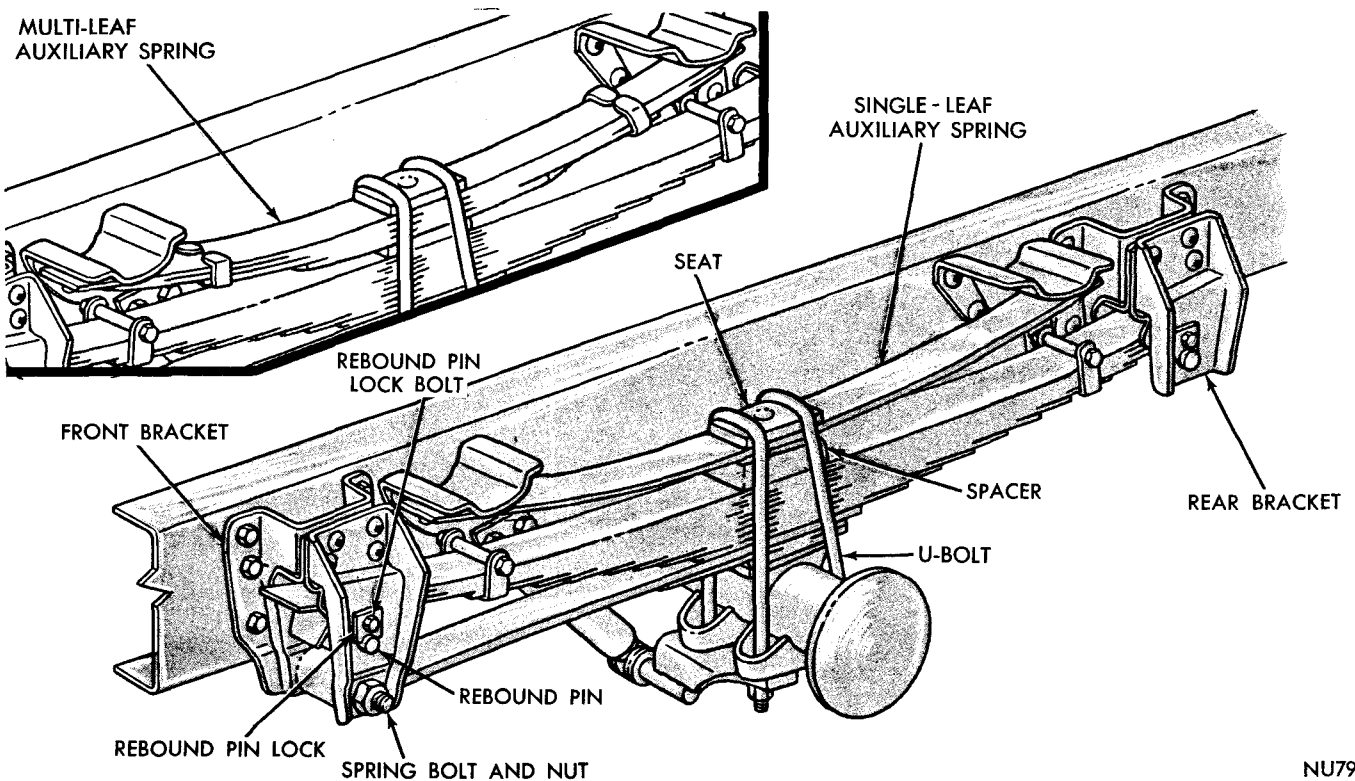

Fig. 14—Variable Rate Spring
REAR SPRINGS (D500, D600, D700, D800, W600, S600 and S700) (Fig. 14)
(3) If truck is so equipped, remove the auxiliary spring and spacer (Fig. 14).
(4) Install a "C" clamp on radius leaf to relieve load on spring eye bolt. Remove front eye bolt retaining nut.
(5) Remove spring eye bolt, and slowly release tension on radius leaf.
(6) Remove rebound pin retaining lock from bracket. Remove spring rebound pin.
(7) Remove rebound pin retaining lock from rear bracket. Remove rebound pin.
(8) Remove rear spring.
(9) If necessary replace radius leaf eye rubber bushing.